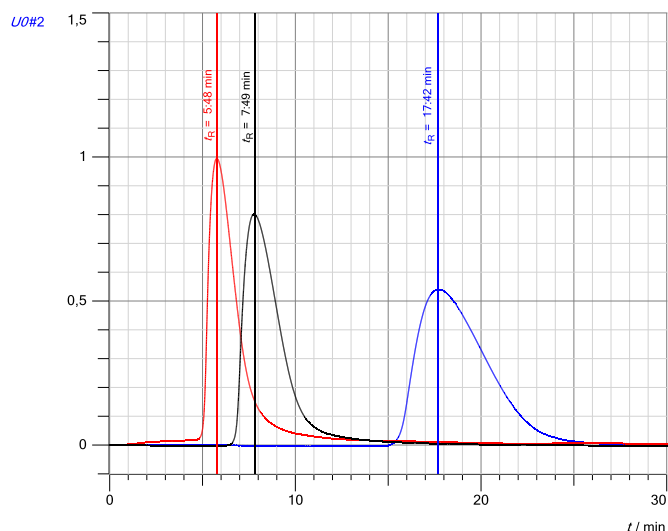

Fig. 2: The influence of temperature on the retention times of ethanol. Temperatures: red: 65 °C, black: 45 °C, blue: 25 °C.
If the GC column is heated to different temperatures from outside by a water bath, the retention time of the substance to be separated, here ethanol, changes distinctly (see Fig. 2).
3. The higher the temperature, the earlier a substance elutes from the column and the more peaked the signal (see Fig. 2 as an example for ethanol, and Table 2 for all alcohols investigated). At higher temperatures, the equilibria responsible for the separation set in more quickly, so that diffusion processes no longer play a large role.